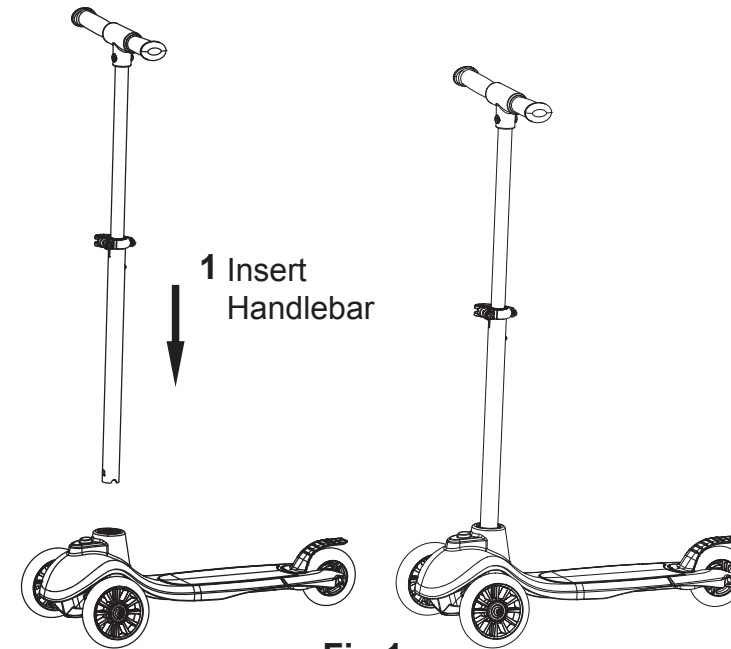

Fig.1
- (1) Insert the tube of the handlebar part unit into the hole in the front area of the footplate until it clicks into the locked position as shown in fig.1